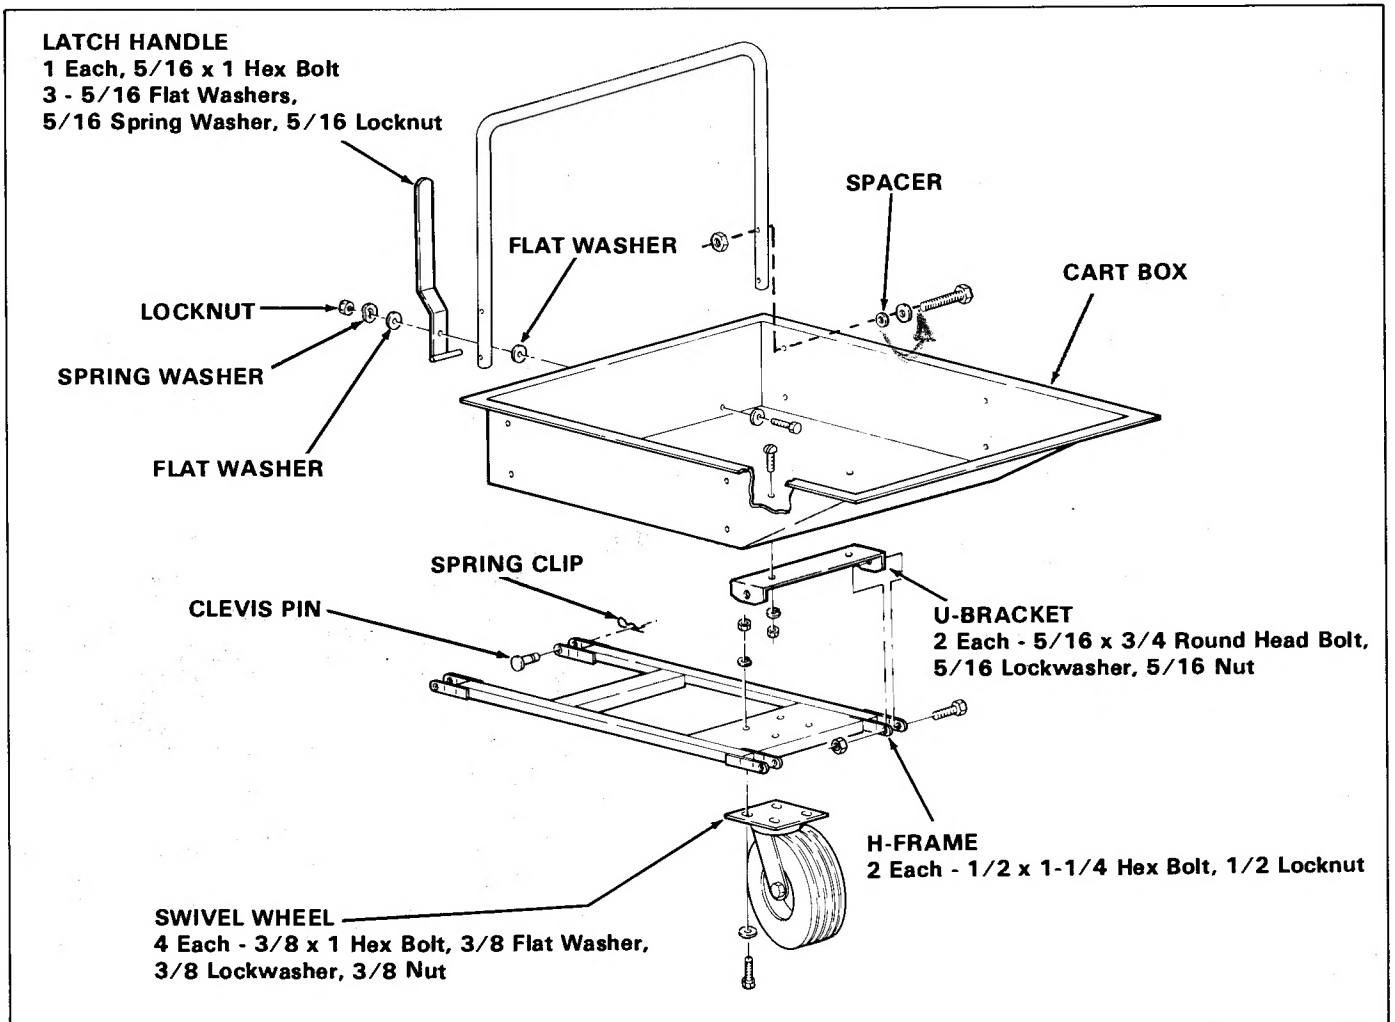
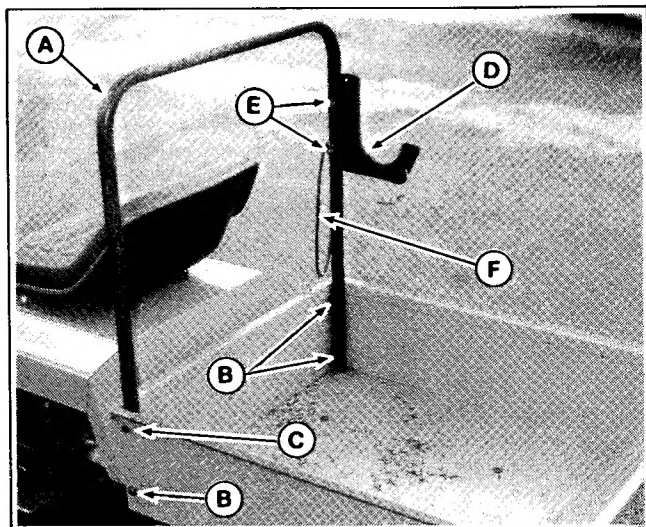

Figure 1.
Figure 6.
1. Remove all parts from inside the cart's box. Open the bag of parts and sort the fasteners into groups for easier assembly of the cart. See figure 1.
1. Install the frame (A, figure 6) at four locations (B) with 5/16-18 x 1-1/2 capscrew, washer and nut. Install spacers (C) at top capscrew on each side between washer and cart box. Refer to figure 1 for correct assembly order.
2. Attach the bracket (D, figure 6) with two 5/16-18 x 1-3/4 bolts (E), washers and nuts. Attach strap (F) with lower set of hardware.